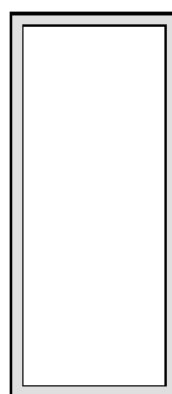

Figure 9: Solder paste application on pins
4. The aperture opening for the signal pads should be between 50-80% of the QFN pad area as shown in Figure 9.